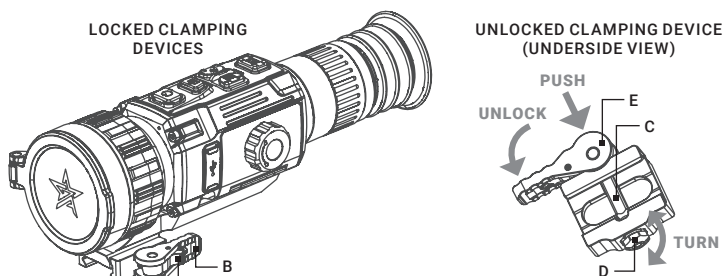

FIGURE 2-5. MOUNT
2. With the clamping device unlocked (as shown in Figure 2-5), push the cam (E) towards the arrow, which will cause the nut (D) to slide out of its hole.
3. To tighten/ loosen the clamping device, push down on the cam (E) and turn the nut (D) CW/CCW respectively, in one-two increments (see note below). Much like when the cam (E) is released, backward-moving spring will cause the nut (D) to slide back into its hole.